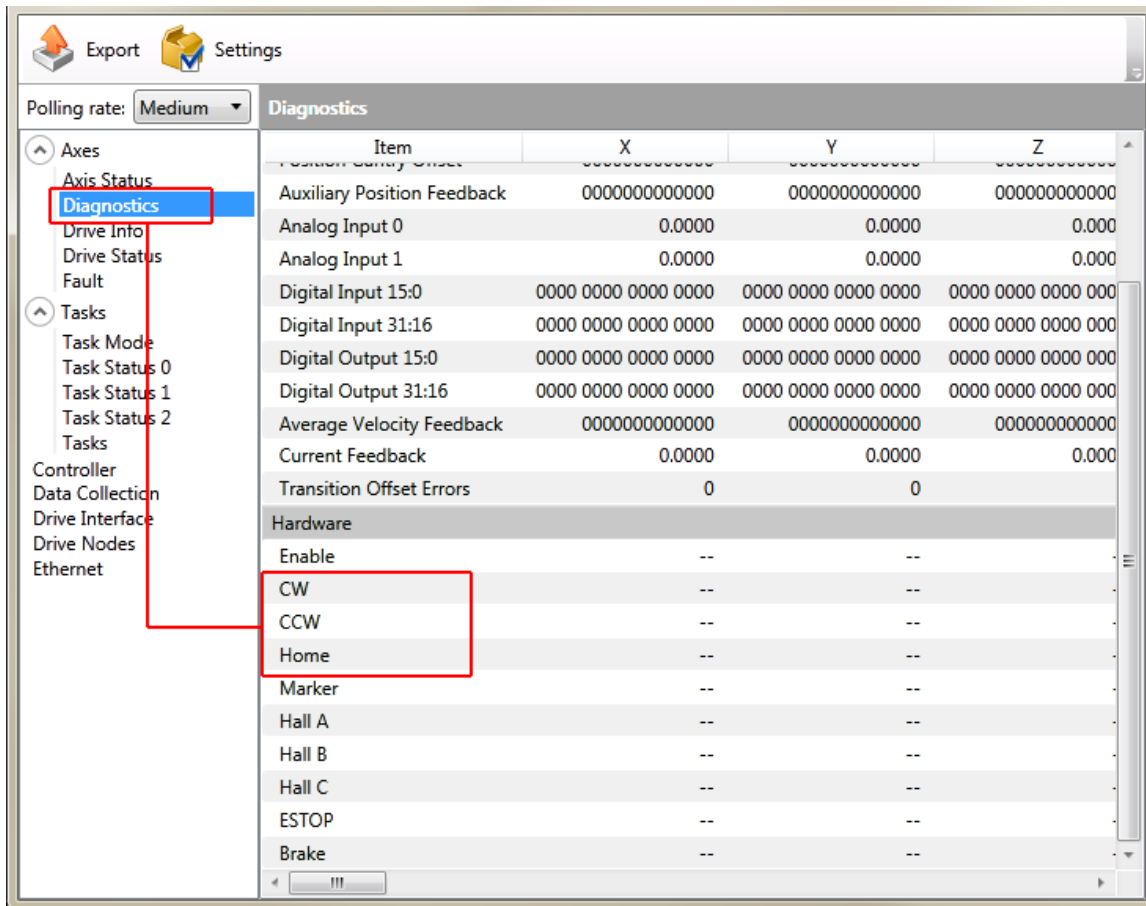

Figure 2-30: End of Travel and Home Limit Input Diagnostic Display
End of Travel (EOT) limits are required to define the end of the physical travel on linear axes. Positive or clockwise motion is stopped by the clockwise (CW) end of travel limit input. Negative or counterclockwise motion is stopped by the counterclockwise (CCW) end of travel limit input. The Home Limit switch can be parameter configured for use during the home cycle, however, the CW or CCW EOT limit is typically used instead. All of the end-of-travel limit inputs accept 0-5 VDC level signals. Limit directions are relative to the encoder polarity in the diagnostics display (refer to Figure 2-30).
If the EOT limits are reversed, you will be able to move further into a limit but be unable to move out. To correct this, swap the connections to the CW and CCW inputs at the Feedback connector or swap the CW and CCW limit functionality in the software using the EndOfTravelLimitSetup parameter. View the logic level of the EOT limit inputs in the Diagnostics display (shown in Figure 2-30).